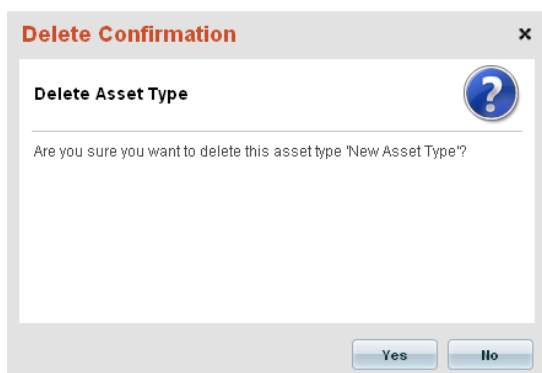

FIG. 416 Delete Confirmation dialog - Asset Type
- The system will prompt you to verify this action before the Asset Type is deleted, via the *Delete Confirmation* dialog (FIG. 416):